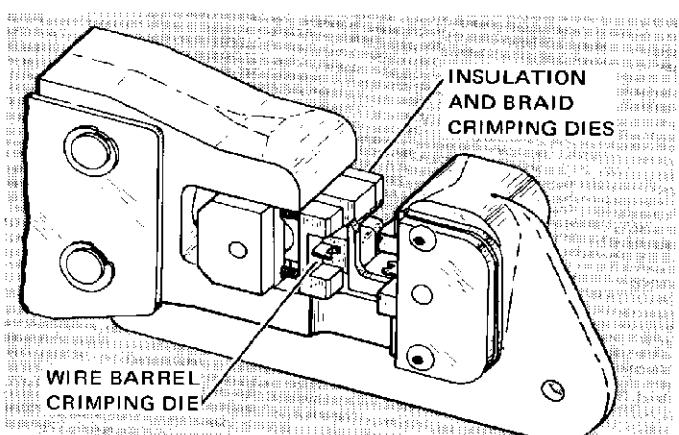

Figure 2
- Most Die Assemblies have three sets of Crimping Dies - one for Inner Wire Barrel of Contact, one for Braid Section of Ferrule and another for Outer Insulation Section of Ferrule. See Figure 2. All three crimps are made at the same time.